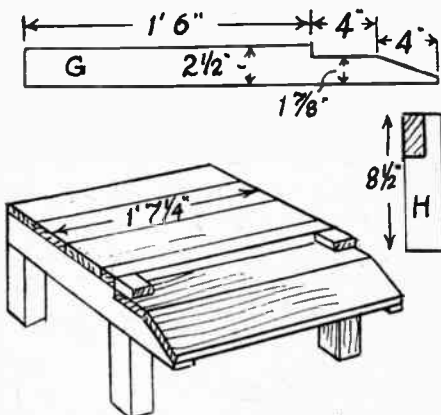

Fig. 3—The support stand
Fig. 3 shows the stand which supports the hive. The side pieces of these (G) are cut from thick wood, stuff of  $1\frac{1}{2}$  ins. by  $2\frac{1}{2}$  ins. size would do nicely. It will be seen that 8 ins. of this are reduced to  $1\frac{3}{8}$  ins., so that if wood of  $\frac{3}{8}$  in. thickness is nailed across it, it will come level with the rest. If wood of thicker stuff be used, the reduction must be amended to suit. For instance, if  $\frac{1}{2}$  in. board is employed,